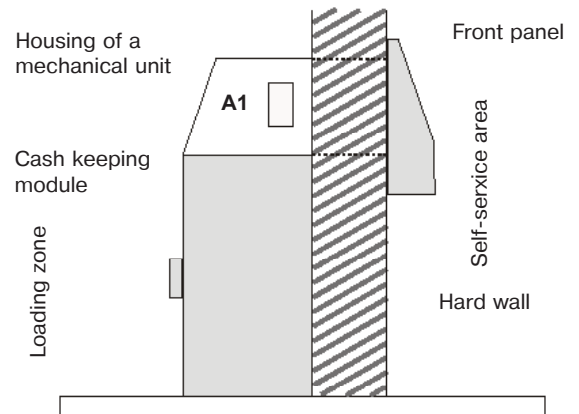

Figure 7 - Monitoring an automatic bank teller machine (ATM or bankomat)
- for metal safe, vault door, cover of the ATM block (Figure 7) – by means of 2 screws (4 mm, 15 mm length);